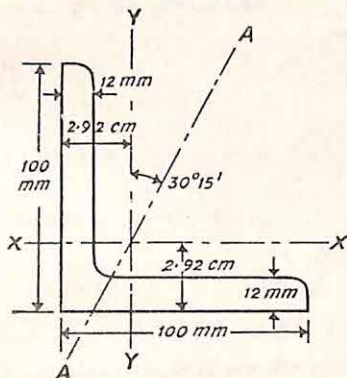

Fig. 67
13. A  $100 \text{ mm} \times 100 \text{ mm}$  angle as shown in Fig. 67 is used as a freely supported beam with one leg vertical.  $I_x = I_y = 207 \text{ cm}^4$ . When a bending moment is applied in the vertical plane  $YY$  the mid-section of the beam deflects in the direction  $AA$ . Calculate the second moments of area of the section about its principal axes. Find also the bending stress at the upper corner of the section if the bending moment is  $400 \text{ kg m}$ . (Lond. Univ.)